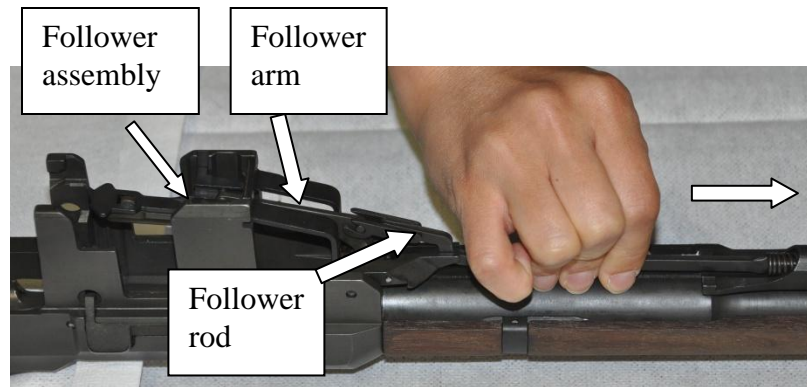
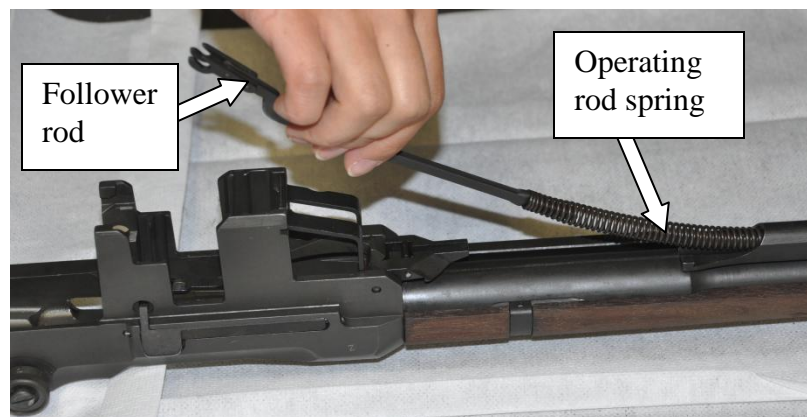

Figure 13. Follower rod being moved towards muzzle
Figure 14. Extending operating rod spring in controlled fashion
- 1) With the sights facing down, place the barrel and receiver group on a flat surface. Hold the rear of the receiver then grasp the follower rod. Disengage the follower rod from the follower arm by moving it towards the muzzle (fig 13) then slowly allow the operating rod spring to extend in a controlled fashion (fig 14). You may need to push down on the follower assembly (shown in fig 13) to disengage the follower rod from the follower arm. Remove the follower rod and operating rod spring from the barrel and receiver group. Do not separate these parts.